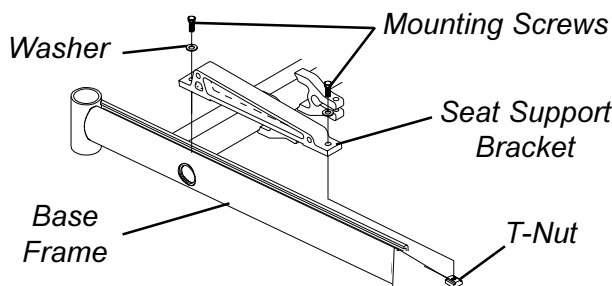

FIGURE 2 - REPLACING SEAT SUPPORT BRACKETS
**REPLACING SEAT SUPPORT BRACKETS (FIGURE 2)**
2. Perform one (1) of the following: